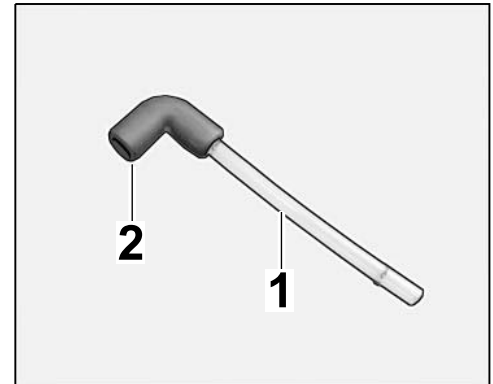

Figure 24
- 3.5 Connect 100-mm plastic tube ⇒ *Figure 24 -1-* and angled pipe ⇒ *Figure 24 -2-* together.